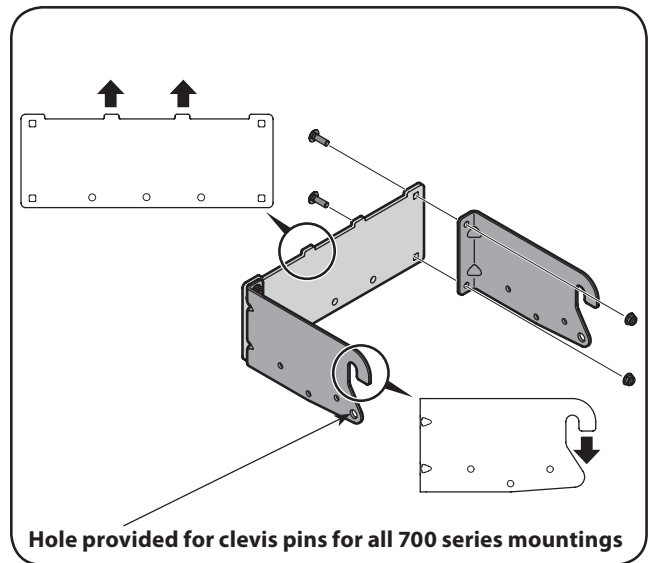

Figure 4-3
1. Attach the two hitch side brackets to the universal rear attachment bracket using four hex bolts and flange lock nuts. With the hooks on the hitch side brackets pointing down, the tabs on the universal rear attachment bracket should be pointing upwards. See Fig. 4-3.
Note: Install two clevis pins through the mounting assembly and secure to the 700 series mounting brackets installed earlier with click pins provided in the hardware pack. Refer back to Fig. 4-3.